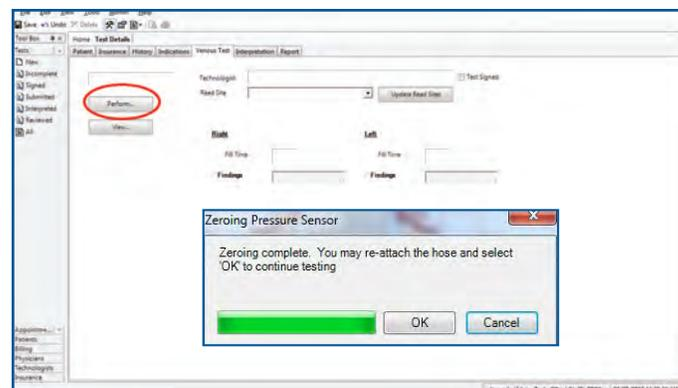

FIGURE 2.8 - Venous Test Tab - "Perform" Button and Zeroing Pressure Sensor Window
9. Click Venous Test tab, then click "Perform..." to begin test. A status bar will indicate the progress of the zeroing. Click "OK" when the process is complete (Figure 2.8).